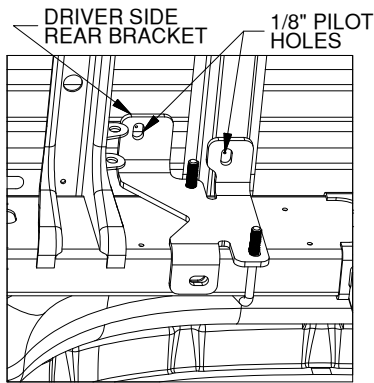
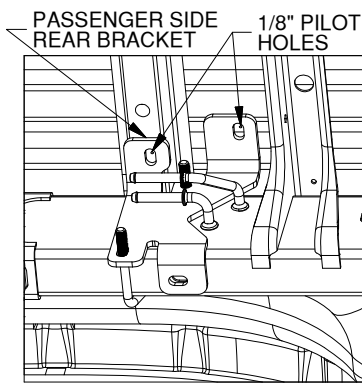

FIGURE A3: View looking up at the inside of driver side frame.
FIGURE A4: View looking up at the inside of passenger side frame.
3. **Check hole locations:** Locate the driver side rear frame bracket and a U-bolt. Position and hold the bracket flat against the inside of the frame where it will be installed, see figure A3. Pass the U-bolt from the outside of the frame through the corresponding holes in the bracket. Check that the 1/8" pilot holes are centered within the slots in the frame brackets. If the 1/8" drilled holes are not centered within the slots, re-drill the 1/8" holes until the brackets and the drilled holes are aligned. Repeat the process for the passenger side using the passenger side rear bracket and a U-bolt, see figures A4.